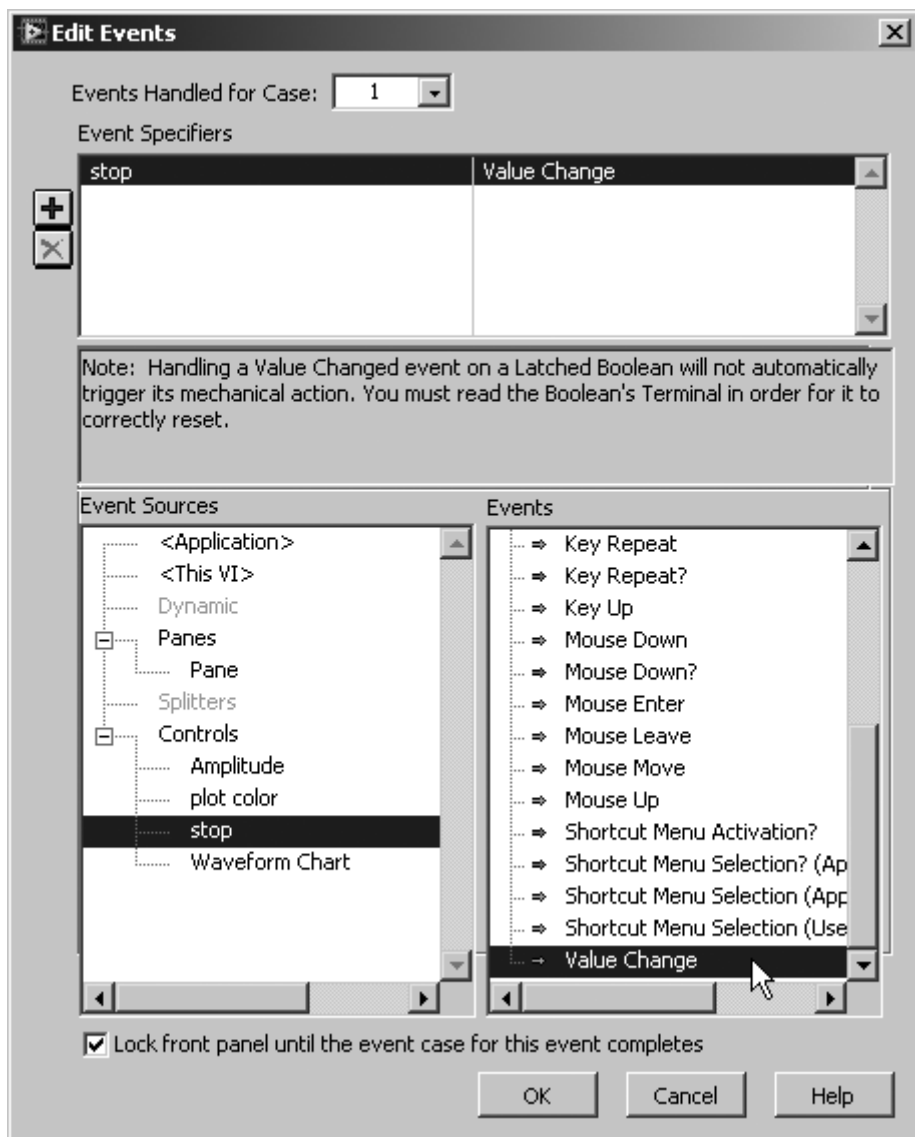

Figure 13.56
4. Now, add an event to detect if the “STOP” button is pressed. To add this event, pop up on the Event Structure and select **Add Event Case . . .**. This will open the Edit Events dialog, shown in Figure 13.56. Select the **Controls>>stop** from Event Sources and on the right column (Events), you’ll need to scroll all the way down to select **Value Change**. Hit OK.